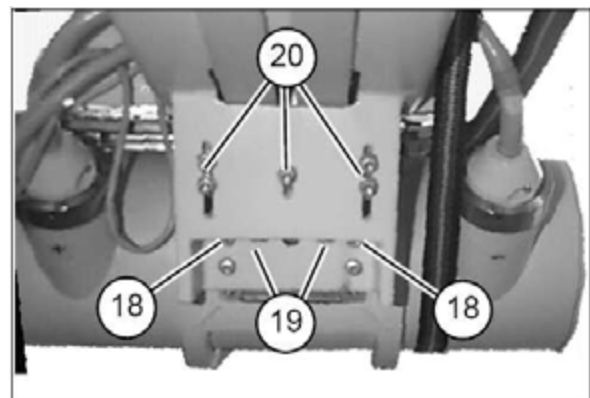
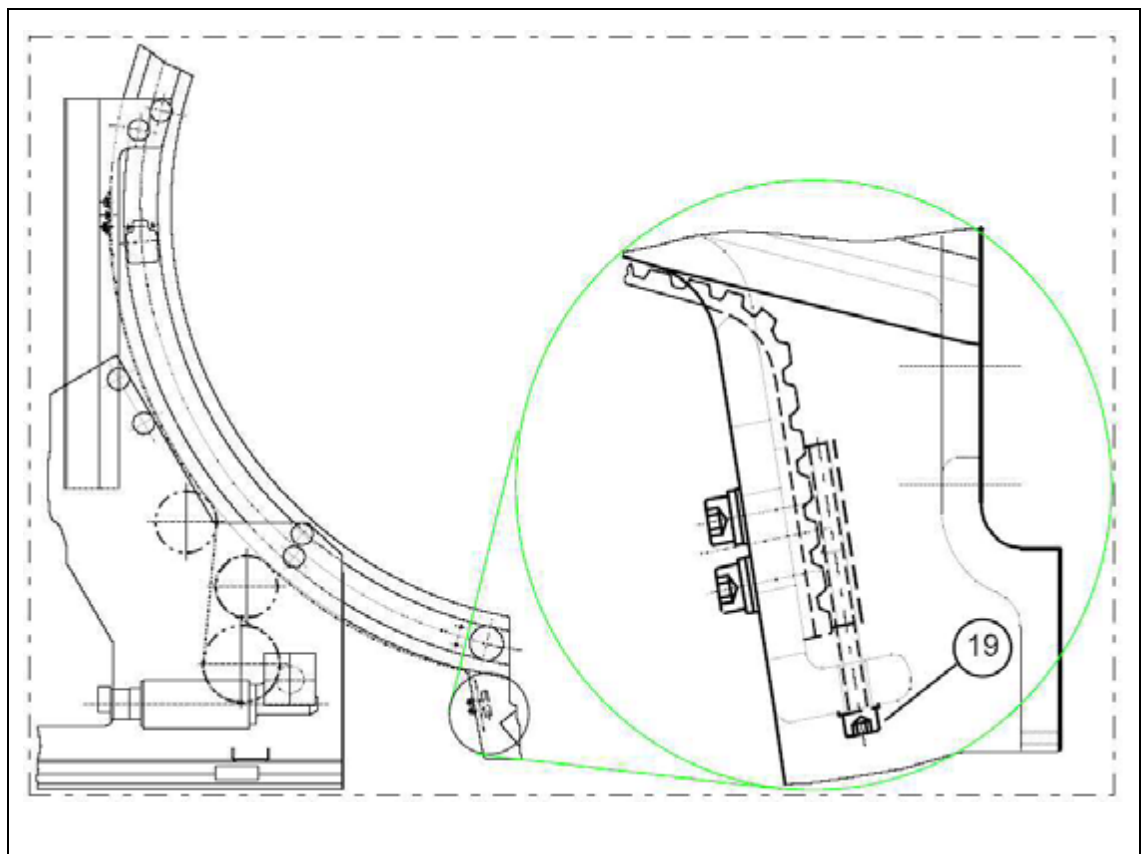

Fig. 39: X-ray tube assembly holder
Fig. 40: Toothed belt placement
- Remove both upper screws from the X-ray tube holder ((18/Fig. 39 / p. 66)).
- Remove both tensioning screws ((19/Fig. 39 / p. 66) and (19/Fig. 40 / p. 67)).
- Remove the 5 screws ((20/Fig. 39 / p. 66)).
- Position the clamp for securing the toothed belt with the threaded holes facing downward between the X-ray tube flange and insert the holder on the C-arm ((Fig. 39 / p. 66) and (Fig. 40 / p. 67)).
- Insert the 5 screws ((20/Fig. 39 / p. 66)) into the clamp and tighten only slightly.
- Insert the tensioning screws ((19/Fig. 39 / p. 66) and (19/Fig. 40 / p. 67)) into the clamp from below and tighten only slightly.
- Re-tighten both upper screws of the X-ray tube holder ((18/Fig. 39 / p. 66)).
- Route the toothed belt according to (Fig. 40 / p. 67).
- Tighten the toothed belt with both tensioning screws ((19/Fig. 39 / p. 66) and (19/Fig. 40 / p. 67)).
- Tighten the 5 screws ((20/Fig. 39 / p. 66)).